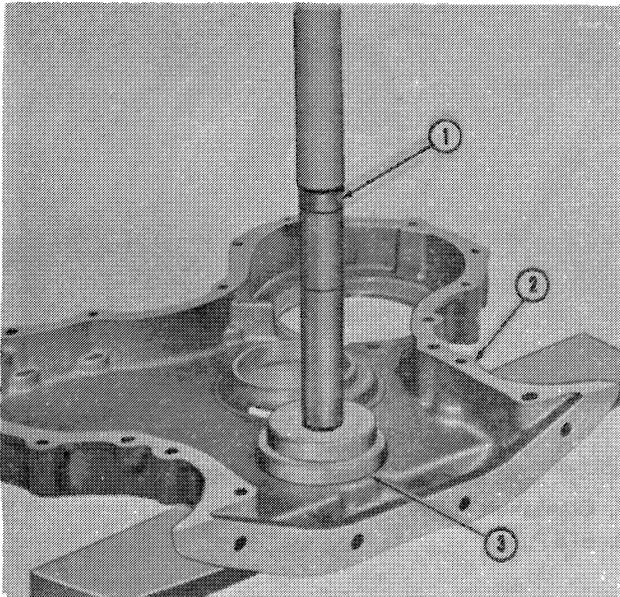

Figure 24
3. Insert the dust seal in the seal bore before installing the oil seal. Coat the new oil seal with petroleum jelly and install the seal as shown in Figure 24. To install the seal, use Step Plate No. 630-16 and a driver handle. Drive the seal in until it is fully seated in the seal bore. Check after installation to be sure the spring is properly positioned in the seal.